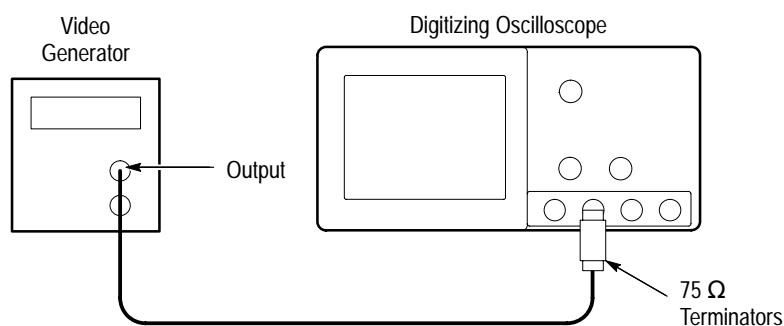

Figure 1–18: Initial Test Hookup
- c. *Hook up the test-signal source:* Connect, through a 75 Ω precision coaxial cable, followed by a 75 Ω terminator, the output of a NTSC format video generator to CH 1 (see Figure 1–18).